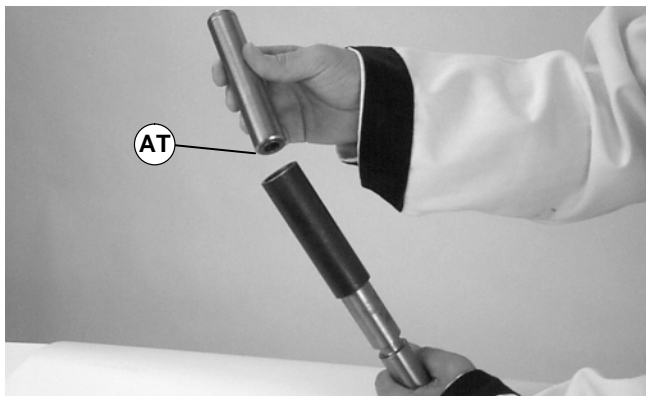

Figure 30
4. Place open end of shaft (AT of Figure 30) into sleeve.